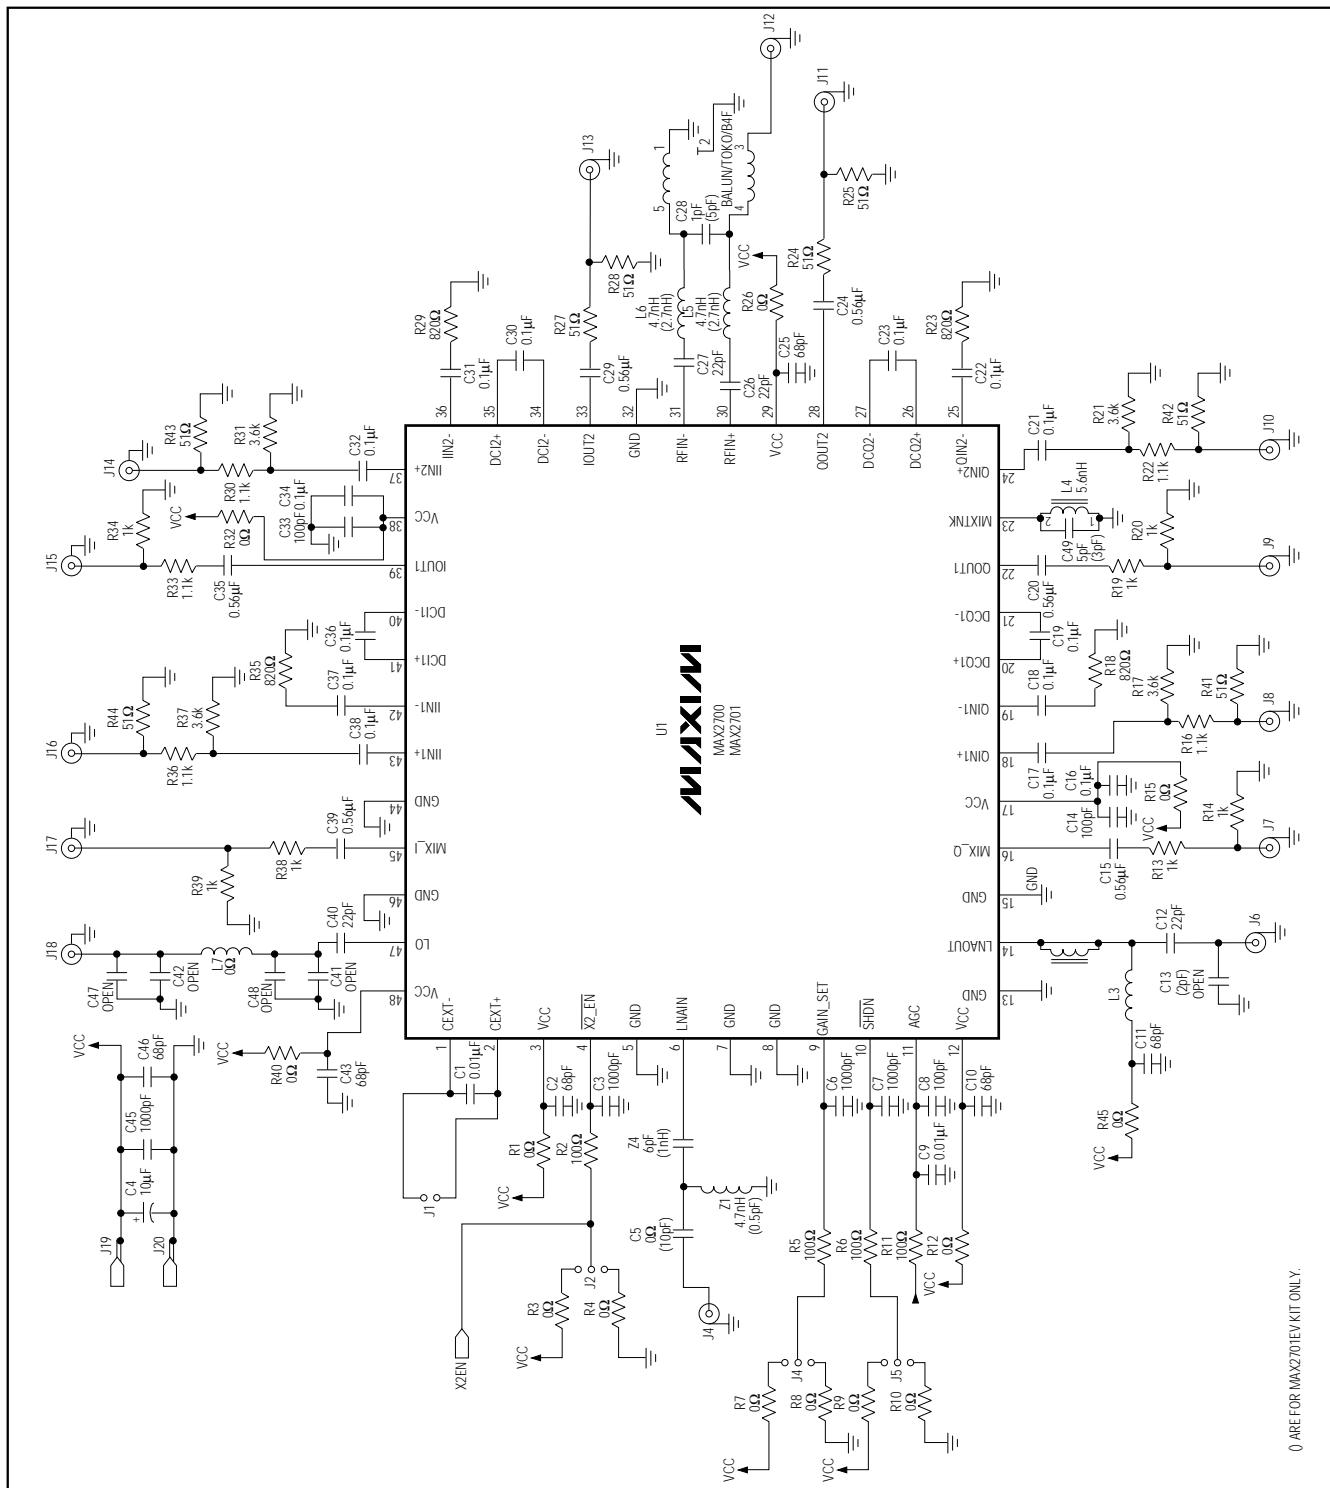

図3. MAX2700/MAX2701EVキット回路図
(MAX2700/MAX2701 EV kit (Figure 3), $V_{CC} = +3.0V$, $T_A = +25^{\circ}C$, $\overline{SHDN} = GAIN_SET = V_{CC}$, $\overline{X2_EN} = GND$, CEXT+ connected to CEXT-, $P_{LO} = -13\text{dBm}$, $F_{LO} = 980\text{MHz}$ (MAX2700) and 1200MHz (MAX2701), $P_{LNAIN} = -30\text{dBm}$, $P_{RFIN} = -25\text{dBm}$, LNAIN and RFIN (single-ended input to balun) driven from 50Ω source, LNAOUT terminated into load; MIX_I, MIX_Q AC-coupled to $2k\Omega$ load; IIN1+, QIN1+, IIN2+, QIN2+ driven from $1.1k\Omega$ AC-coupled source; IOUT1, QOUT1 AC-coupled to $2k\Omega$; IOUT2, QOUT2 AC-coupled to 100Ω ; input to VGAs, 20mVp-p at 1MHz tone, set $V_{AGC} = 1.25V$, unless otherwise noted.)
(MAX2700/MAX2701 EV kit (Figure 3), $V_{CC} = +3.0V$, $T_A = +25^{\circ}C$, $\overline{SHDN} = GND$, $X2_{EN} = GND$, $CEXT+$ connected to $CEXT-$, $P_{LO} = -13dBm$, $F_{LO} = 980MHz$ (MAX2700) and 1200MHz (MAX2701), $PLNAIN = -30dBm$, $PRFIN = -25dBm$, $LNAIN$ and $RFIN$ (single-ended input to balun) driven from 50Ω source, $LNAOUT$ terminated into load; MIX_I , MIX_O AC-coupled to $2k\Omega$ load; $IIN1+$, $QIN1+$, $IIN2+$, $QIN2+$ driven from $1.1k\Omega$ AC-coupled source; $IOUT1$, $QOUT1$ AC-coupled to $2k\Omega$; $IOUT2$, $QOUT2$ AC-coupled to 100Ω ; input to VGAs, 20mVp-p at 1MHz tone, set $V_{AGC} = 1.25V$, unless otherwise noted.)
(MAX2700/MAX2701 EV kit (Figure 3), $V_{CC} = +3.0V$, $T_A = +25^{\circ}C$, $\overline{SHDN} = GND$, C_{EXT+} connected to C_{EXT-} , $P_{LO} = -13dBm$, $F_{LO} = 980MHz$ (MAX2700) and 1200MHz (MAX2701), $P_{LNAIN} = -30dBm$, $P_{RFIN} = -25dBm$, LNA_{IN} and RF_{IN} (single-ended input to balun) driven from 50Ω source, LNA_{OUT} terminated into load; MIX_I , MIX_Q AC-coupled to $2k\Omega$ load; IIN_1+ , QIN_1+ , IIN_2+ , QIN_2+ driven from $1.1k\Omega$ AC-coupled source; $IOUT_1$, $QOUT_1$ AC-coupled to $2k\Omega$; $IOUT_2$, $QOUT_2$ AC-coupled to 100Ω ; input to VGAs, 20mVp-p at 1MHz tone, set $V_{AGC} = 1.25V$, unless otherwise noted.)
*C19, C23, C30, C36 in the EV kit schematic in Figure 3 represent DC offset capacitors.